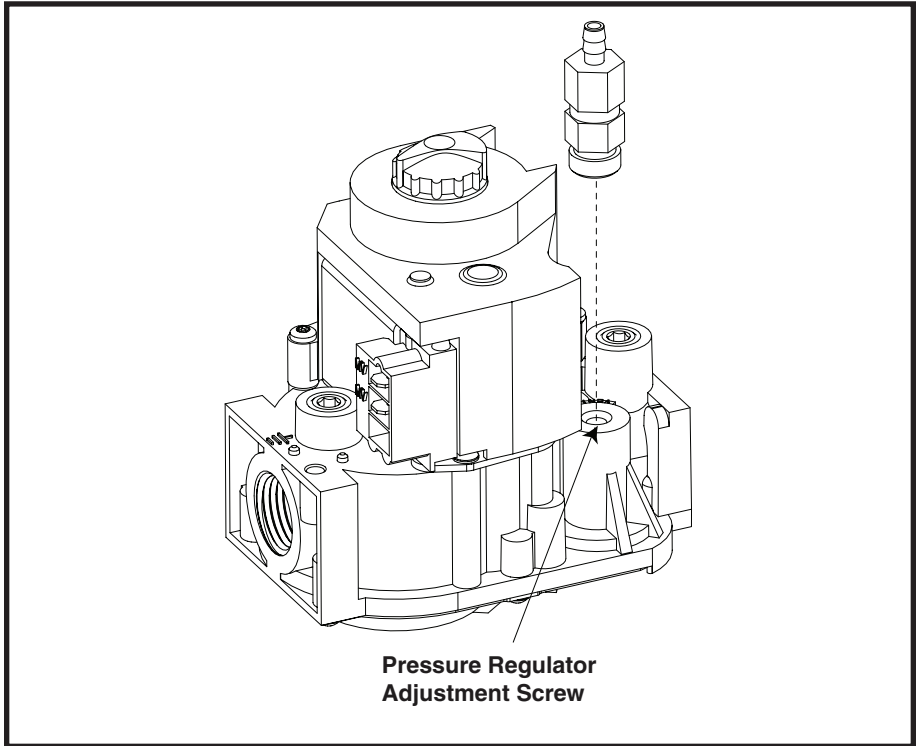

Figure 3. Pressure Regulator Adjustment Screw Location (VR8205S 2288)
3. Remove the pressure regulator adjustment screw (located underneath the cap screw). For condensing furnaces, the Pressure Regulator Adjustment is located underneath the brass fitting (see Figure 3).
1. If the manifold pressure must be adjusted, remove the protective cap or fitting from the top of the gas valve regulator, as shown in Figures 3 and 4.